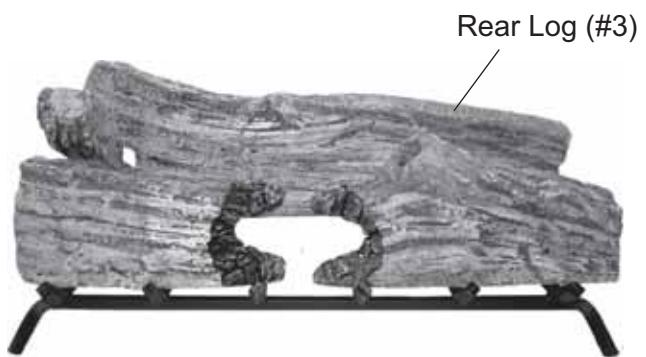

Figure 116 - Installing Rear Log #3
5. Fit cutout in the bottom left of Rear Log #3 over the back end of log #2. Rest right end of Log #3 on rear grate bar. *See Figure 116.*